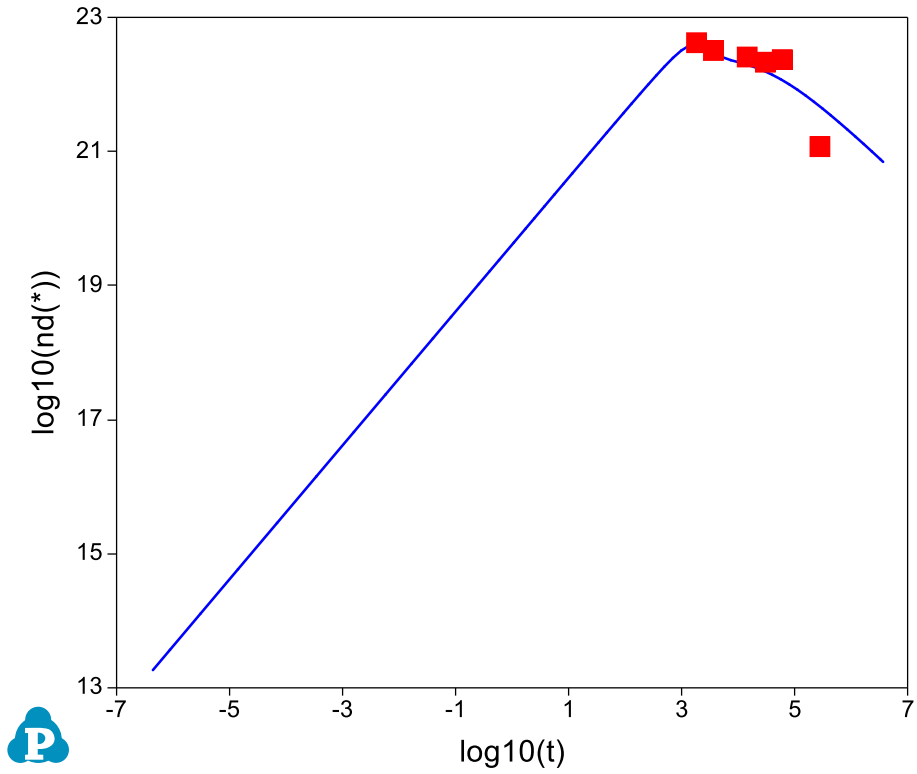
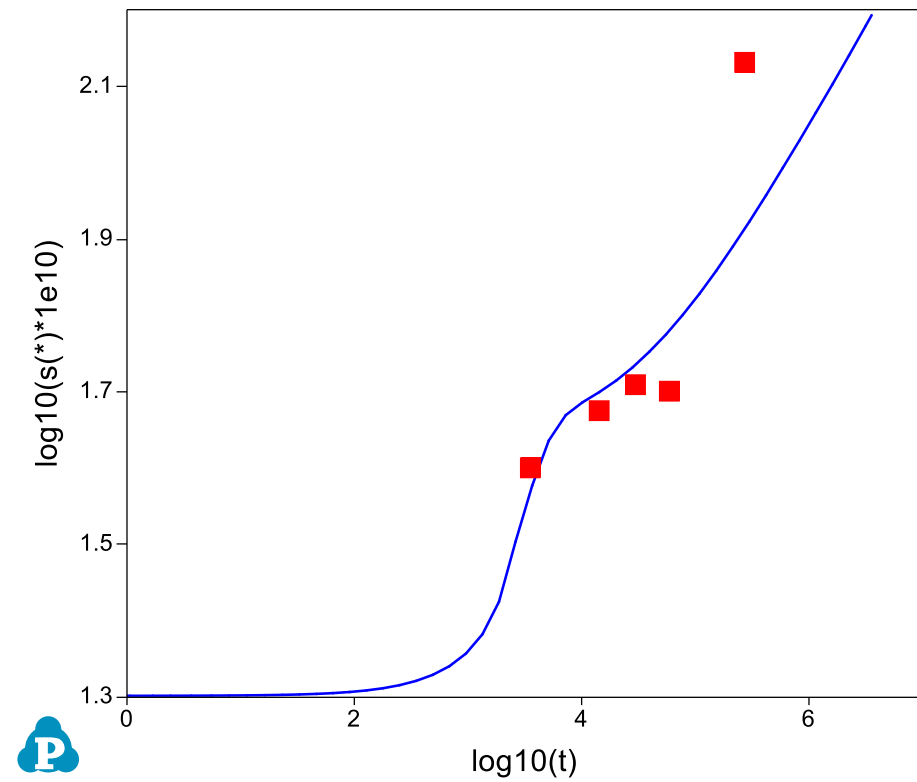
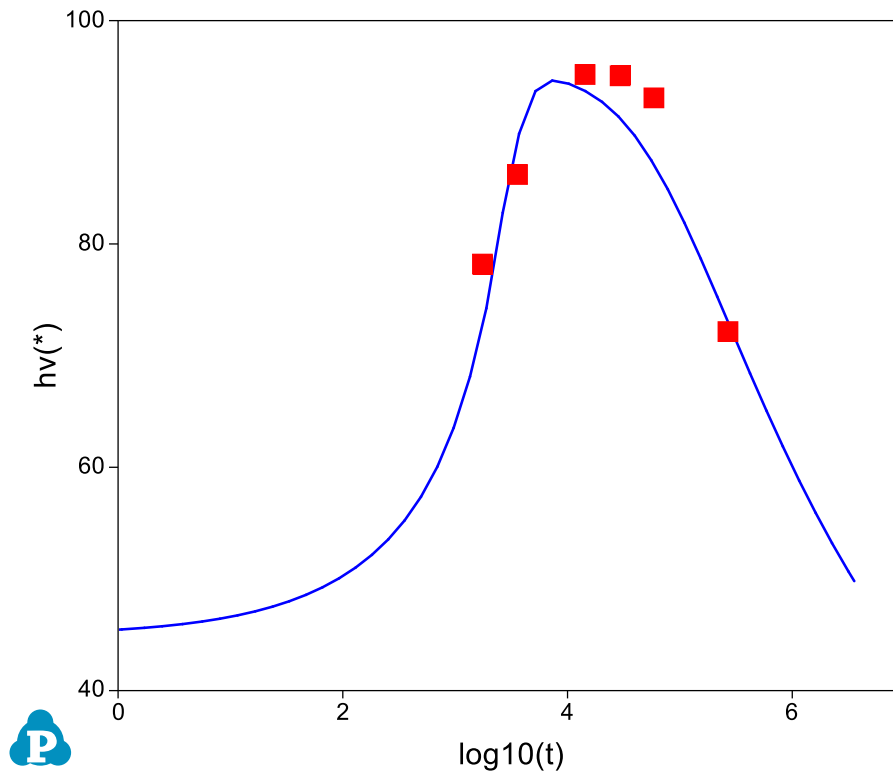

Figure 3.4.5: Evolution of the particle number density with experimental data
Figure 3.4.6: Evolution of the particle size with experimental data
Figure 3.4.7: Evolution of hardness with experimental data
- Figure 3.4.5 shows the calculated number density evolution; Figure 3.4.6 shows the size evolution, and Figure 3.4.7 the hardness change with time. Experimental data are plotted on them for comparison;